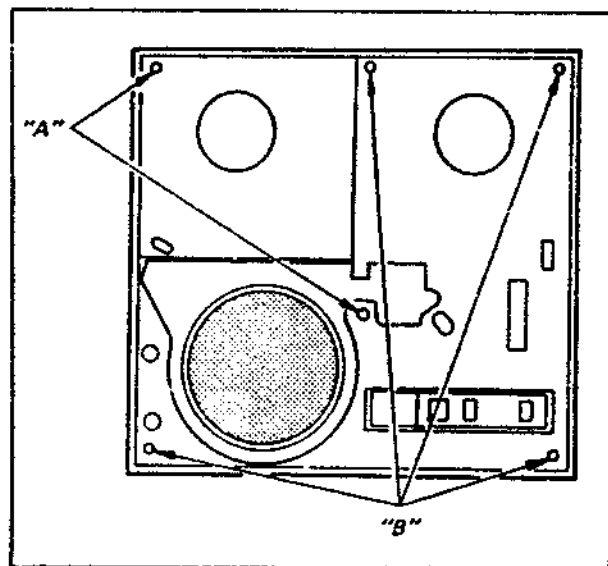

Fig. 3-2. Removal of Control and Reel Panel
5. Loosen the two screws "A" and remove the four screws "B" as shown in Fig. 3-2.